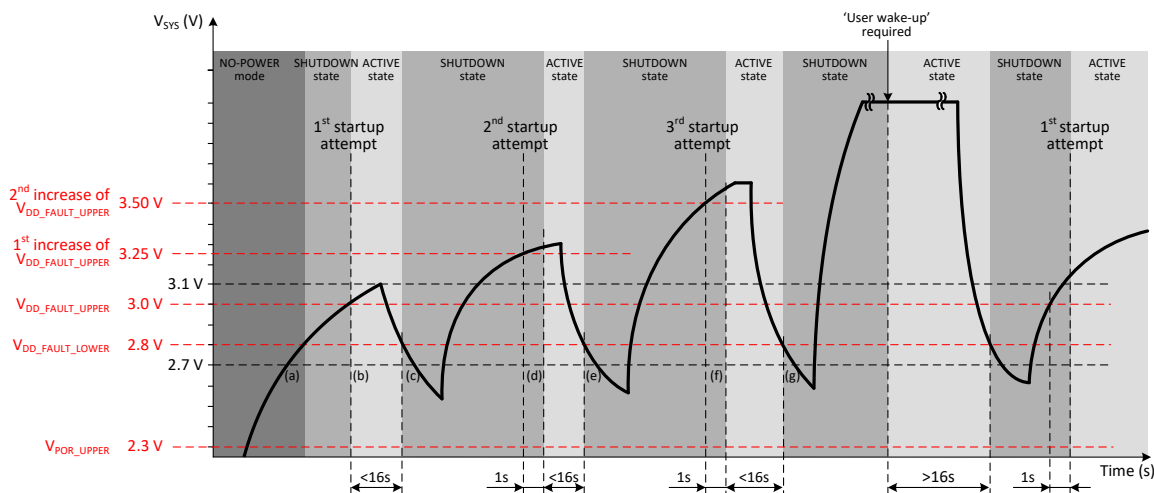

Figure 14: VDD\_START Faults
The DA9063 `VDD_START` feature prevents endless looping of false starts in a weakly-powered system. `VDD_START` limits the number of automatic restart attempts to three. With reference to Figure 14:
- **Figure 14(a):** The PMIC starts from NO-POWER mode.
- **Figure 14(b):** First startup attempt. The PMIC transitions to the ACTIVE state when  $V_{SYS}$  rises above  $V_{DD\_FAULT\_UPPER}$ .
- **Figure 14(c):** If, during the first startup attempt, the  $V_{SYS}$  supply drops below  $V_{DD\_FAULT\_LOWER}$  for more than 100 ms, the PMIC shuts down to the SHUTDOWN state.  $V_{DD\_FAULT\_UPPER}$  is increased automatically by 250 mV. However, the increased  $V_{DD\_FAULT\_UPPER}$  is limited to a maximum of 3.70 V.
- **Figure 14(d):** Second startup attempt. If  $V_{SYS}$  rises above the new  $V_{DD\_FAULT\_UPPER}$  threshold, then the PMIC will power-up to the ACTIVE state.
- **Figure 14(e):** If, during the second startup attempt, the  $V_{SYS}$  supply drops below  $V_{DD\_FAULT\_LOWER}$  for more than 100 ms, the PMIC shuts down to the SHUTDOWN state.  $V_{DD\_FAULT\_UPPER}$  is increased automatically by a further 250 mV (500 mV above its original setting). However, the increased  $V_{DD\_FAULT\_UPPER}$  is limited to a maximum of 3.70 V.
- **Figure 14(f):** Third startup attempt. If  $V_{SYS}$  rises above the new  $V_{DD\_FAULT\_UPPER}$  threshold, then the PMIC will power-up to the ACTIVE state.
- Figure 14(g): If, during the third startup attempt, the  $V_{SYS}$  supply drops below  $V_{DD\_FAULT\_LOWER}$  for more than 100 ms, the PMIC shuts down. From then on, AUTO\_BOOT and wake-up from non-user events are temporarily disabled. 'User events' are defined in Table 40.